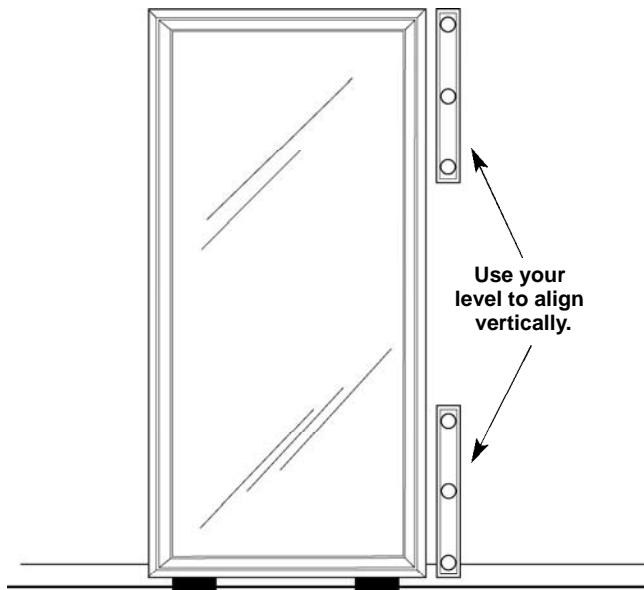

Figure 3
Decide which side you want the door to open from: left or right. Our illustrations show how to install the Wardrobe Door (#1) to open on the left, with the Piano Hinge (#11) and Oak Mounting Strip (#12) on the right (See Figure 3).
- C. Lift the Wardrobe Door (#1) so that the mirror front is *facing* you and the Piano Hinge (#11) is on your right. Set the Wardrobe Door (#1) on the Wood Blocks with the Oak Mounting Strip (#12) touching the wall and the Wardrobe Door (#1) supported on the Wood Blocks (See Figure 3). The Wardrobe Door (#1) and Oak Mounting Strip (#12) should be flush to the wall. The door must cover the opening.
- D. Refer to Figure 3. Use the Level to align the Wardrobe Door (#1) and Oak Mounting Strip (#12) plumb, straight up and down. The “shims” may come in handy for this purpose.